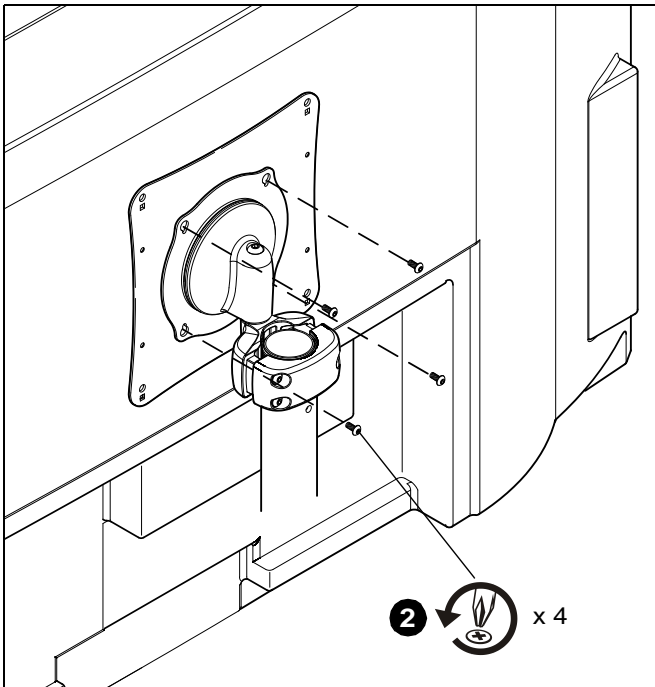

Figure 1
2. Remove the four M4 x 8mm screws from the mounting plate and carefully remove the display. (See Figure 1)